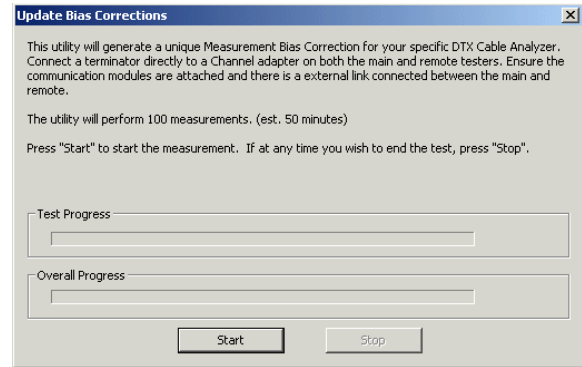

Figure 4-1. Update Bias Corrections
- 3 Select **Utilities > Update Bias Corrections**. (See Figure 4-1.)